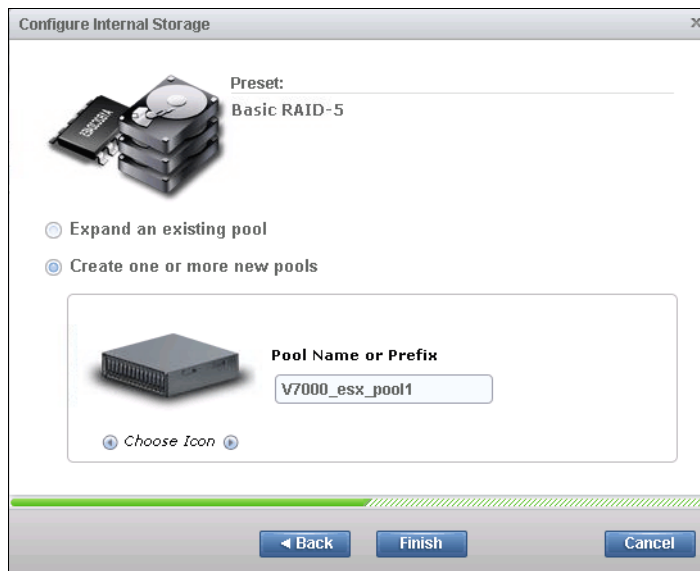

Figure 7-22 Create storage pool
2. Alternatively, create a new storage pool (Figure 7-22).